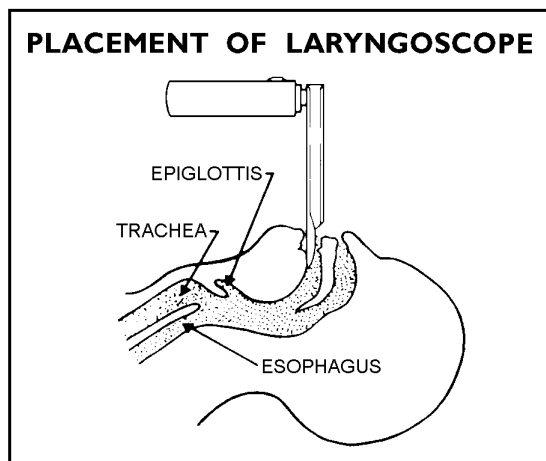

Figure 3-64
5. Insert the laryngoscope blade. (See Figure 3-64.)